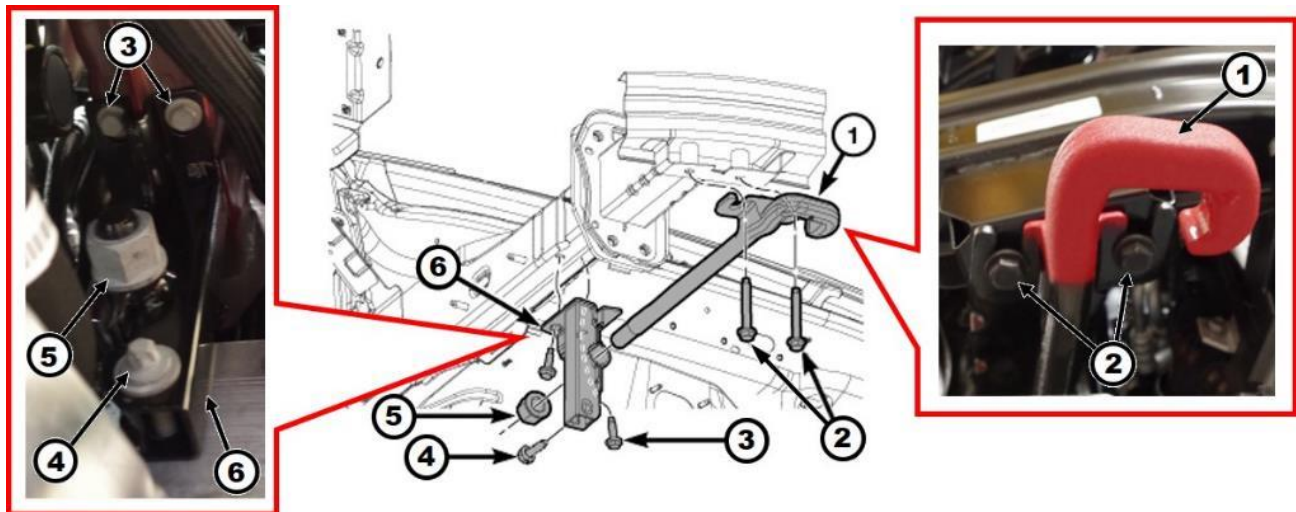

Figure 28 – Tow Hook
- 33. **If equipped,** remove the tow hook bolts (2) and remove the nut (5) then Remove the tow hook (1) (Figure 28).
- 34. **If equipped,** remove the tow hook bracket bolts (3) and (4) then remove the tow hook bracket (6) (Figure 28).